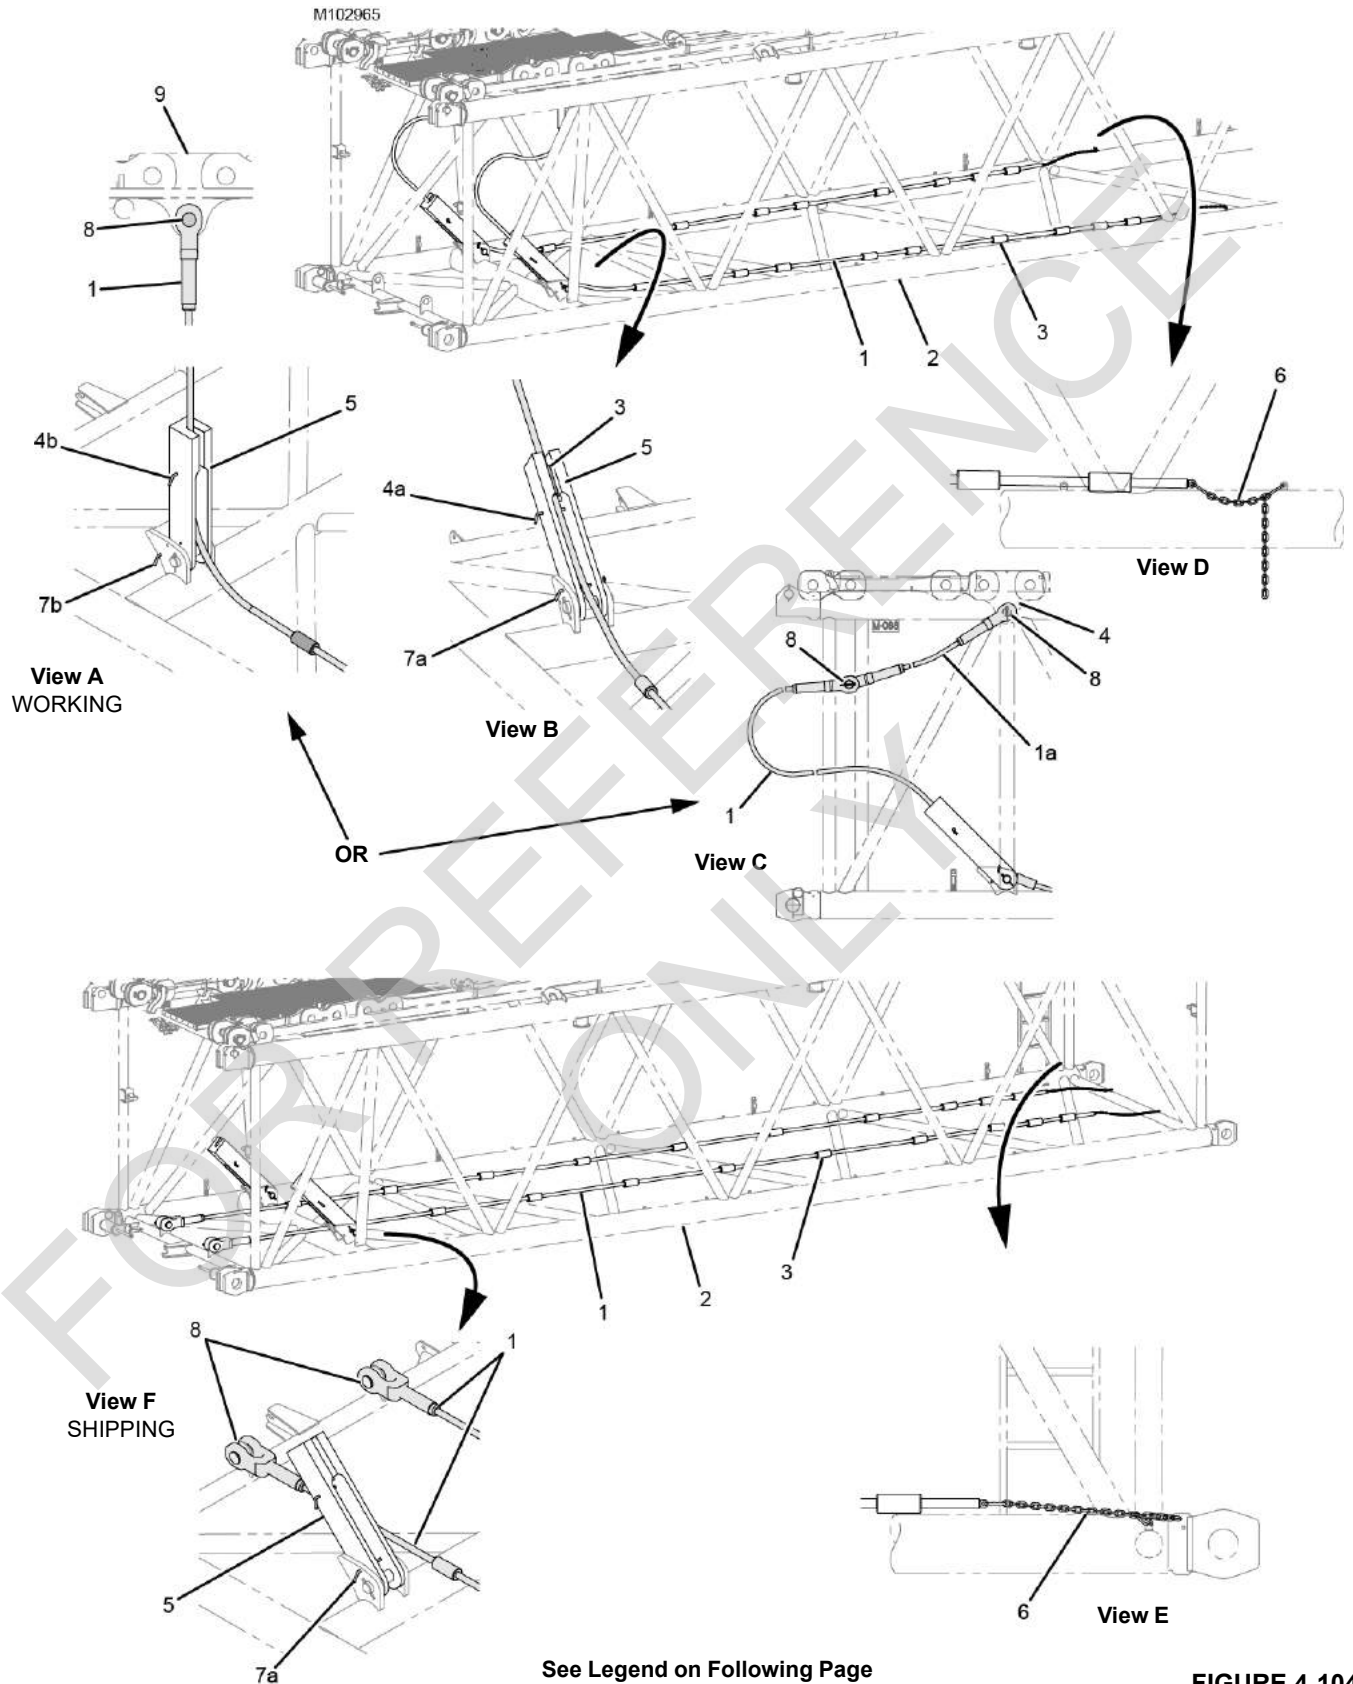

FIGURE 4-104
- intermediate (Figure 4-104 on page 4-132)